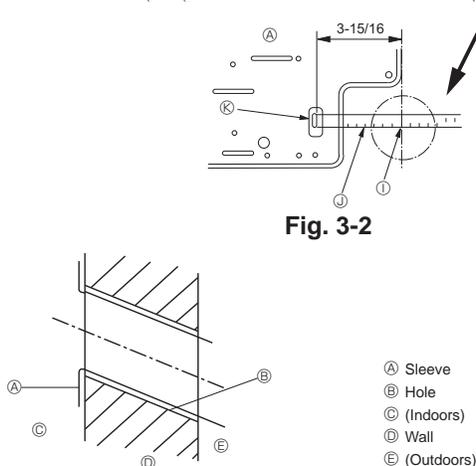

Fig. 3-3
- (B) Indoor unit
- (C) Bottom left rear pipe hole (ø75-ø80 mm, 2-61/64-3-35/64 inch)
- (D) Bottom right rear pipe hole (ø75-ø80 mm, 2-61/64-3-35/64 inch)
- (E) Knockout hole for left rear hole (75 × 480)
- (F) Bolt hole (4-ø9 mm, 23/64 inch hole)
- (G) Center measurement hole (ø2.5 mm, 3/32 inch hole)
- (H) Tapping hole (75-ø5.1 mm, 13/64 inch hole)
- (I) Hole centre
- (J) Align the scale with the line.
- (K) Insert scale.
3.2.2. Drilling the piping hole (Fig. 3-3)